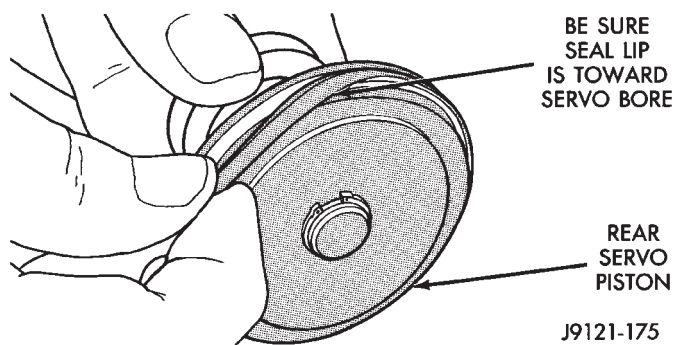

Fig. 89 Installing Rear Servo Piston Seal
- (3) Install new seal on piston. Be sure seal lip is toward servo bore (Fig. 89).
- (4) Lubricate piston seal with petroleum jelly. Lubricate other servo parts with transmission fluid.